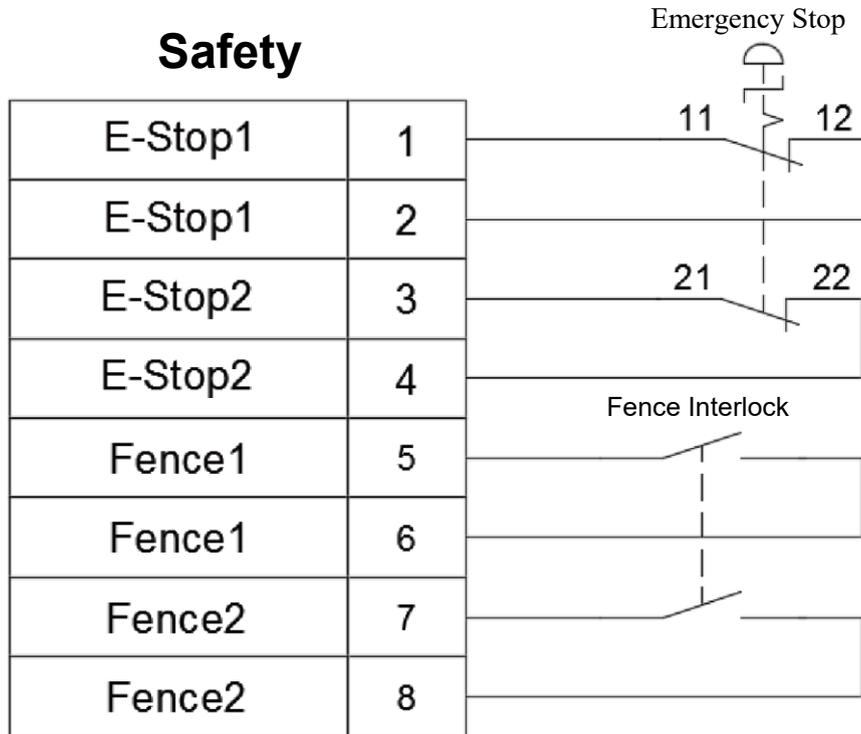

Figure 7.1 Emergency Stop button and safety signal wiring
- (1) Complete the construction of the safety protection devices. Refer to the safety protection descriptions in Chapter 4 and the wiring in Chapter 5 for details.
- (2) Correctly connect the Emergency Stop button and safety signals, as shown in Figure 7.1.